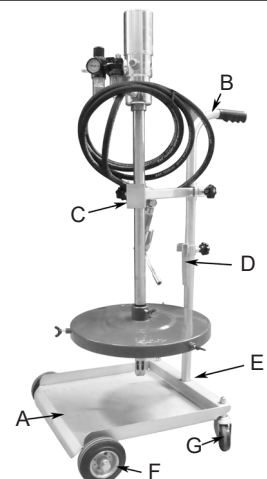

fig.1
4.1.1. Remove items from carton and identify pieces from contents list above using fig.1 and fig.2 as a reference.
4.2. ASSEMBLING THE TROLLEY (refer to fig.1).